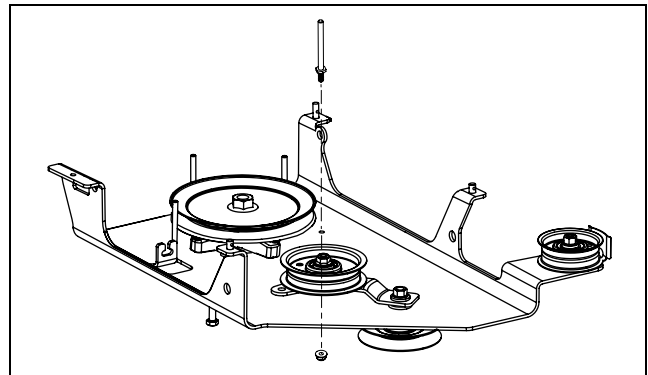

FIGURE 5
15. From the 753-05097 Service Kit contents locate and install the Belt Keeper, Item 5, and Flange Lock Nut, Item 7, as shown in Figure 5. Ensure the belt is between the belt keeper and the spindle's "V" pulley.